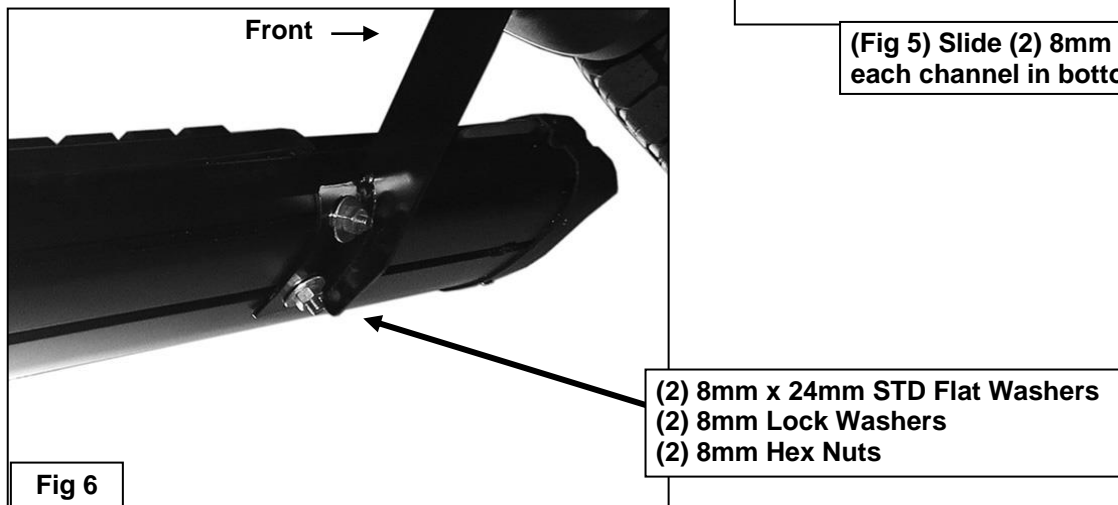

Fig 6
7. Line up the front of the Sidebar approximately 2" back, (or locate as desired), from the front wheel opening. Attach the Sidebar to the Mounting Brackets with (4) 8mm Flat Washers, (4) 8mm Lock Washers and (4) 8mm Hex Nuts, **(Figure 6)**. Do not tighten hardware at this time.